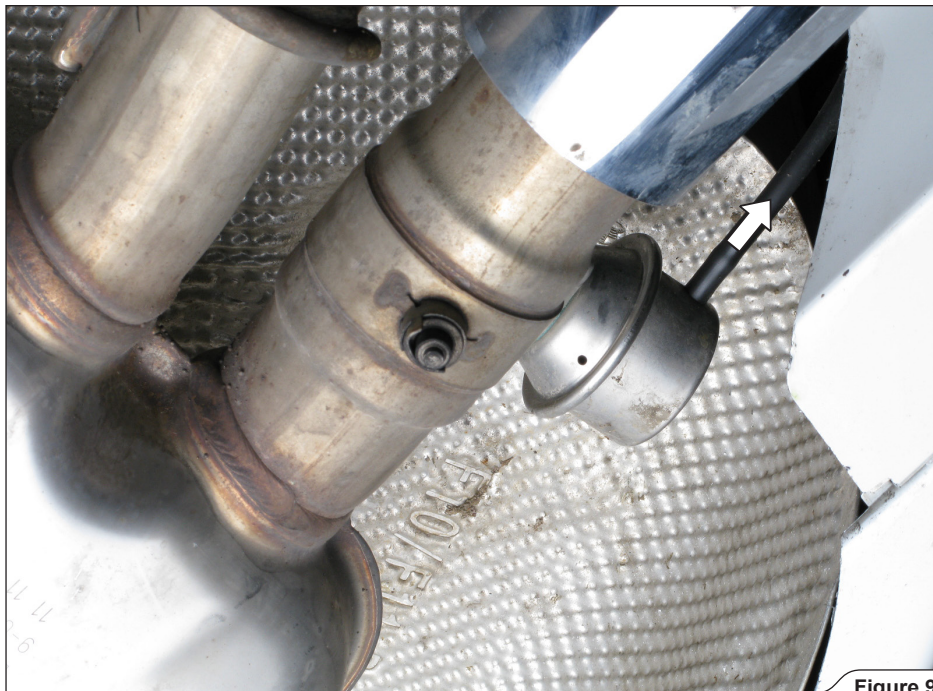

Figure 9
- Carefully pull the vacuum tubes off both vacuum actuators (**Figure 9**).